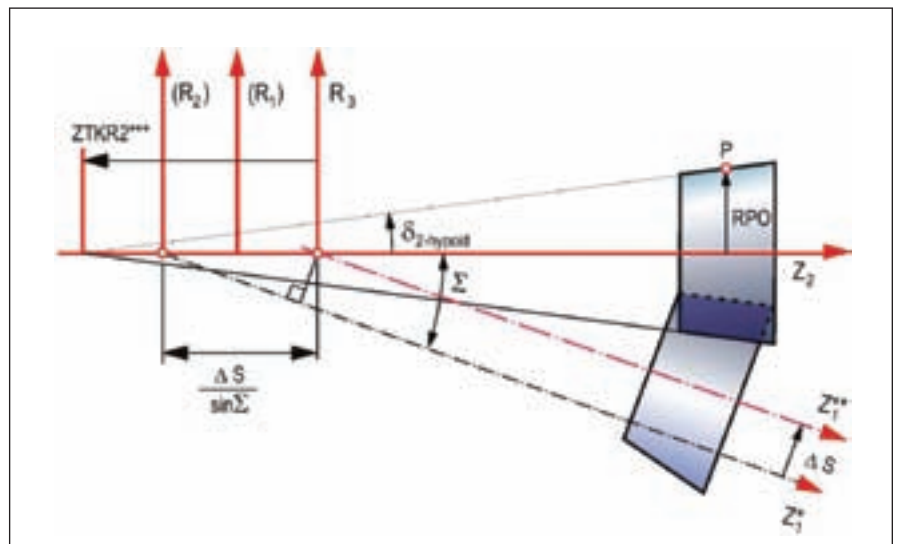

Figure 5—Hypoid crossing point.
4. The horizontal movement (Fig. 1) of ΔS (or ΔS^*) will move the pinion axis in case of positive ΔS values toward the gear axis, and move the crossing point in positive Z -axis direction by $\Delta S / \sin(\Sigma)$, which will establish the final distance crossing point to pitch apex (Fig. 5). The value of ZTKR2*** is negative because the gear cone apex is now shifted in negative z_2 direction and lies left of the R_2 axis